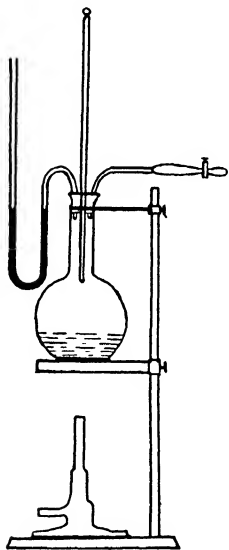

FIG. 75.
2.—Arrange a flask carrying a three-holed rubber stopper with mercury pressure gauge, thermometer and outlet tube as shown in Fig. 75. To the outlet tube attach a short piece of rubber tubing and wire it on with pliers. On this place a screw pinch cock.